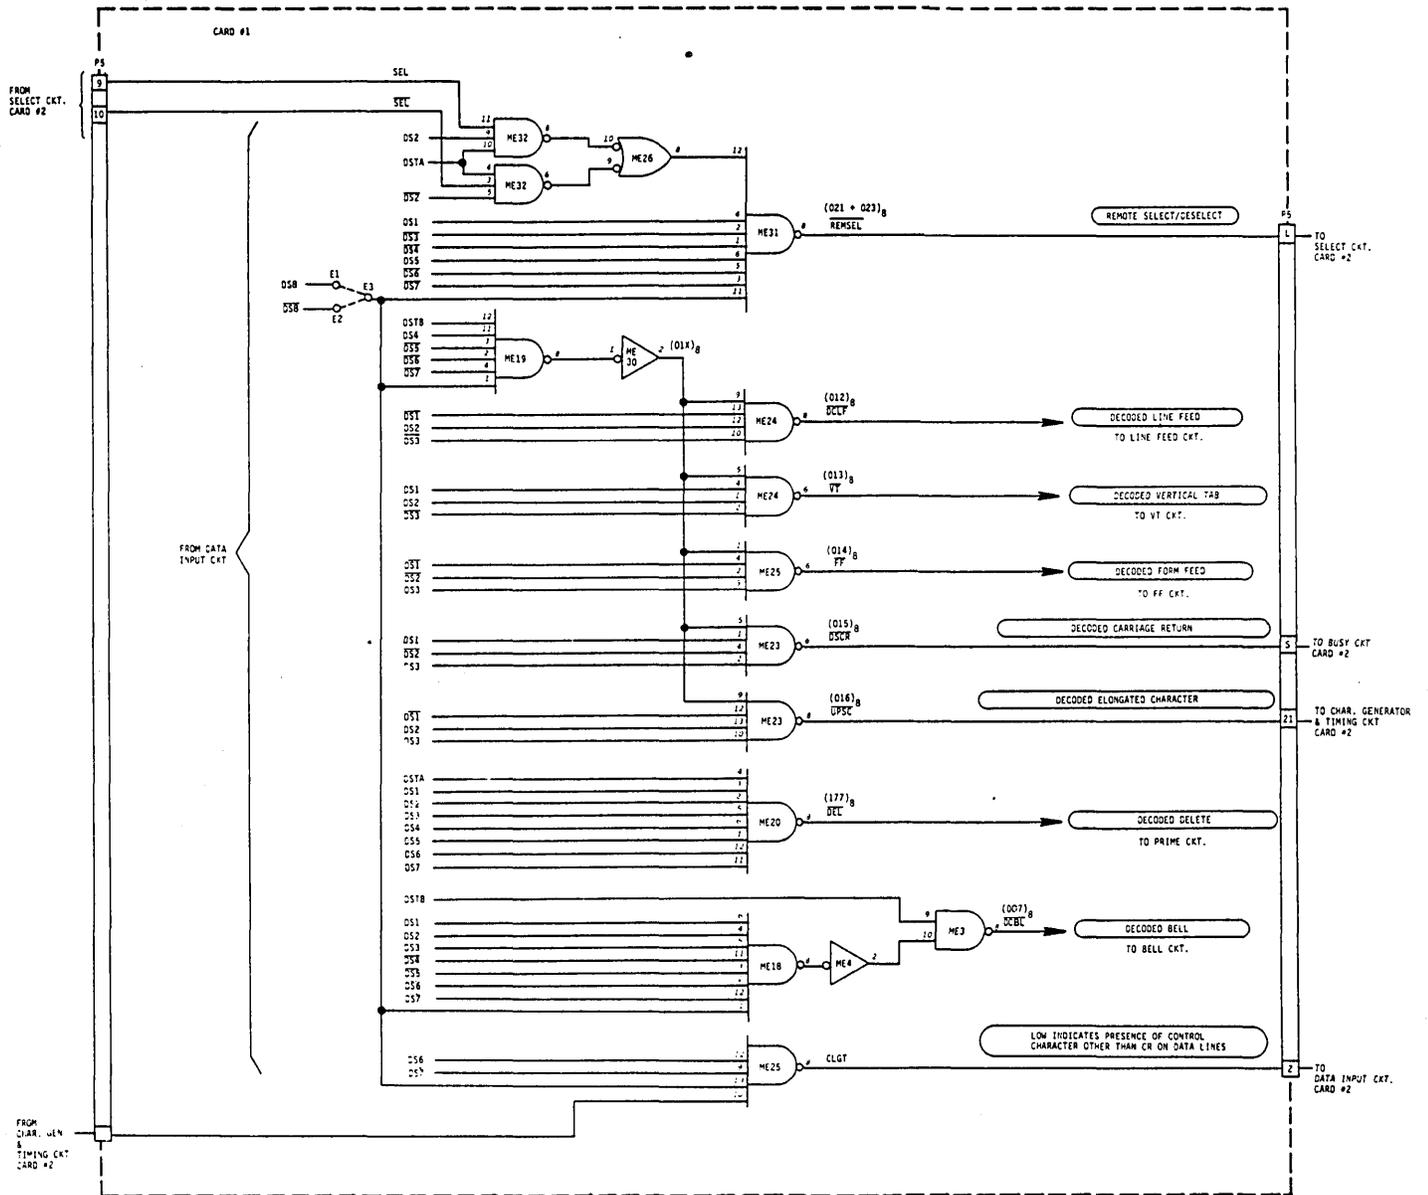

Figure 4-12. FUNCTION DECODER
4.4.6 FUNCTION DECODER (Figure 4-12)